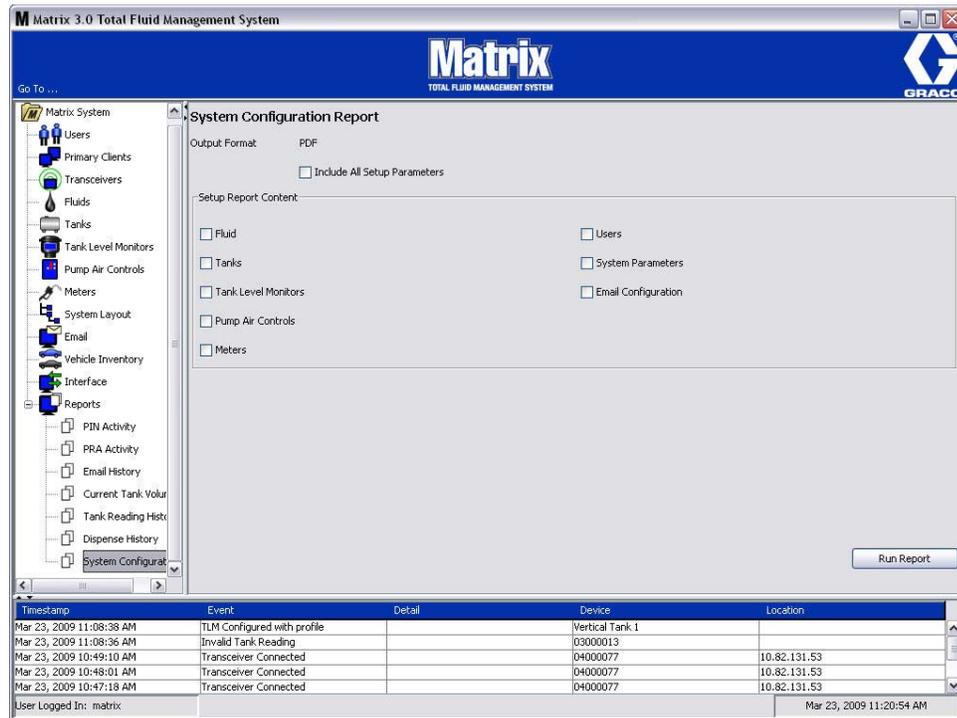

FIG. 198
- **System Configuration (Fig. 198)**